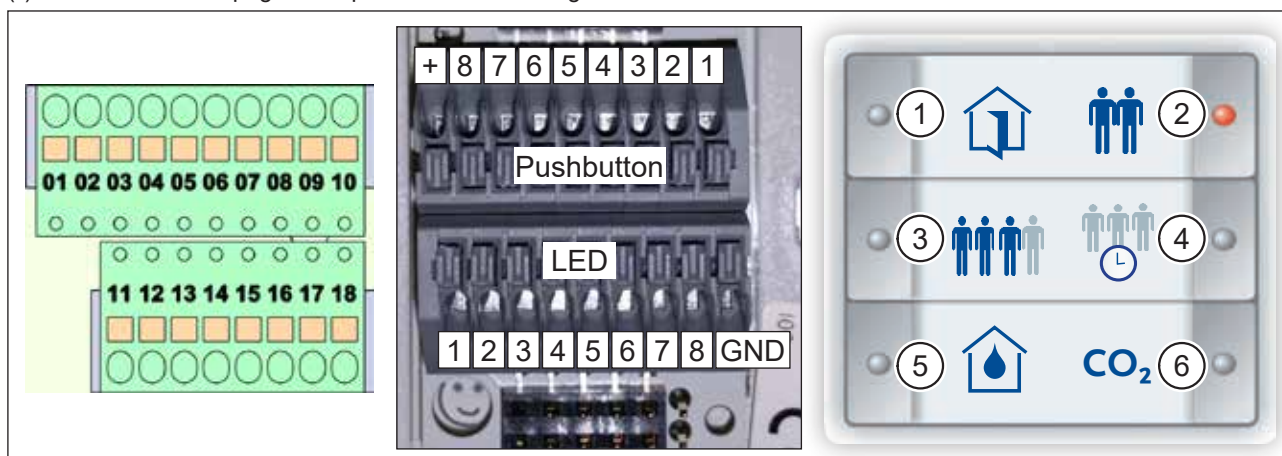

Fig. 32: Terminal blocks on ventilation unit, terminal blocks on InControl pushbutton sensor, insert sheet
- ▶ After wiring, place the insert sheet (Fig. 32) in the InControl pushbutton sensor.